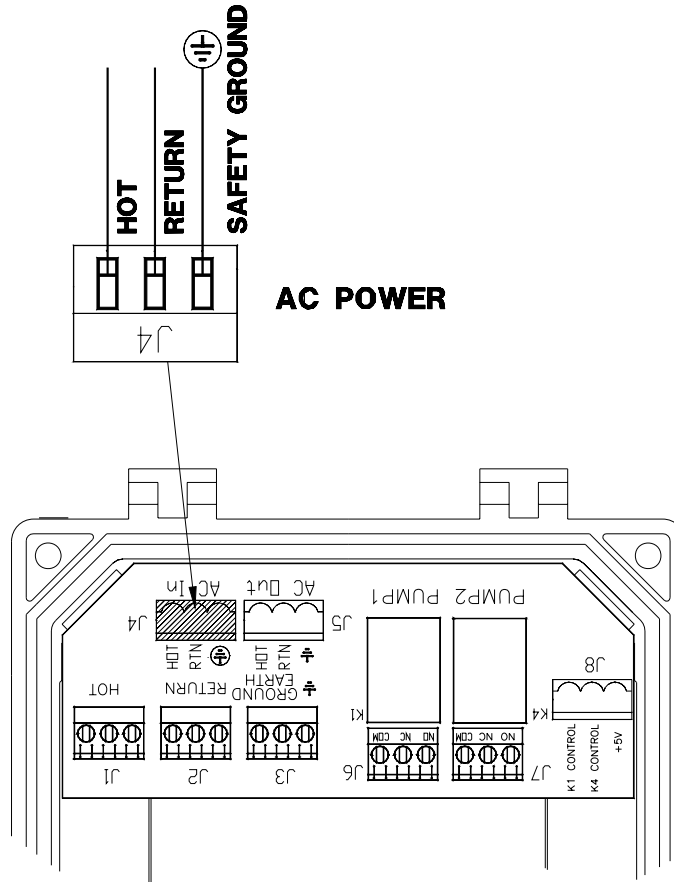

Figure 18 – Main Power Connections (Non-CE) Approved
1. Connect the main power to J4 pins 1, 2, & 3 as shown in *Figure 18 – Main Power Connections* below.